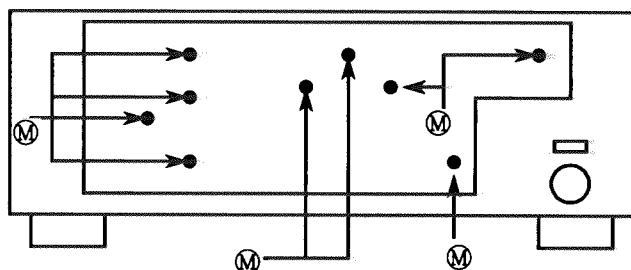

FIG.5 Front panel ass'y rear side
4. Remove 9 screws \textcircled{M} .(FIG.5)